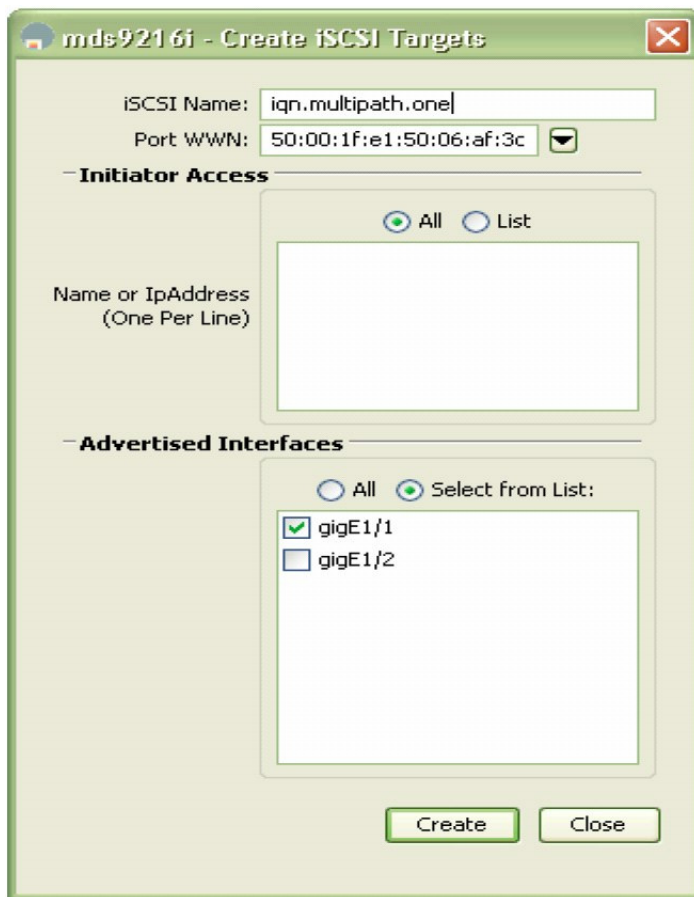

Figure 33 Create iSCSI Targets window
3. Click **Create**. The Create iSCSI Targets window opens (Figure 33).